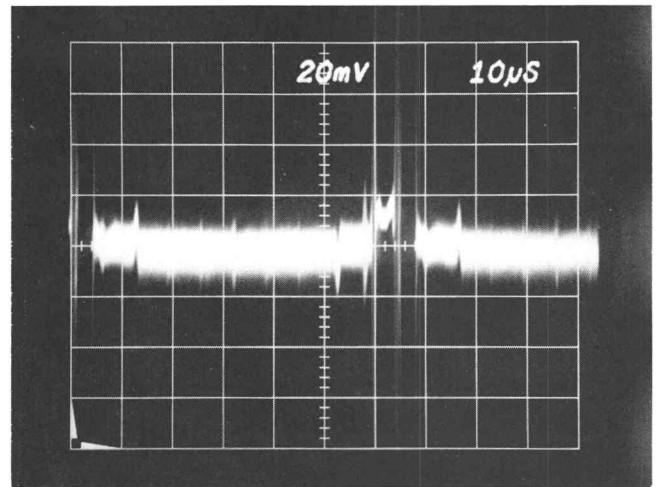

Fig. 3-20. Differential Phase check.
- c. Check—Tilt caused by changing luminance levels should not exceed 2% of the value noted in step 25c. (2% is equal to 1° of differential phase.) See Fig. 3-20.